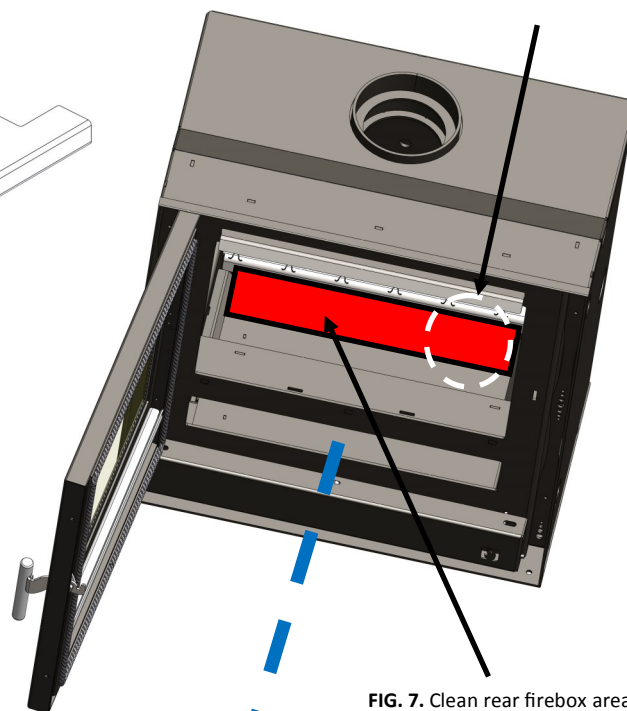

FIG. 7. Clean rear firebox area (shown in red)
- Vacuum away any loose material & ash from the bottom rear of the firebox (shown below in RED colour)(Fig. 7.).